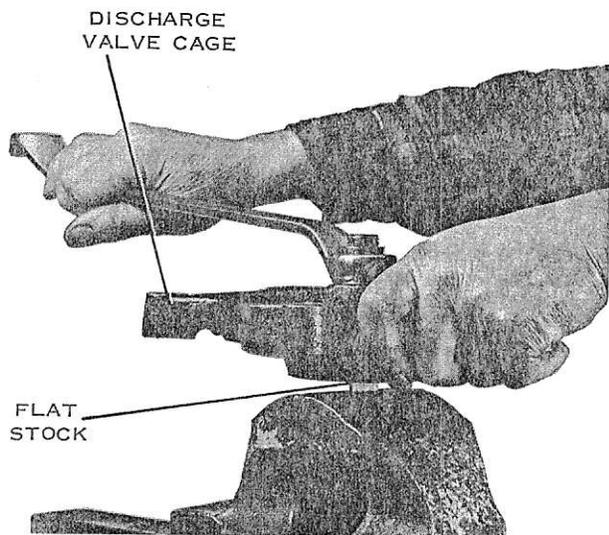

FIG. 40— Alternate Method Of Disassembling Discharge Valve Cage
3. Place a piece of flat tempered steel in a vise as shown in Fig. 40. Make sure it fits snugly in the slot of the discharge valve cage bolt.
4. Hold the slotted bolt of the discharge valve cage firmly on the flat steel as shown in Fig. 40 and remove the self locking nut.